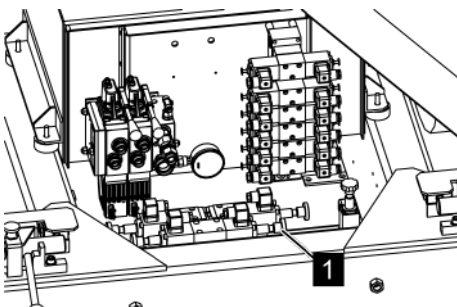

Fig. 136: Shuttle valve
8. ➔ After service operation, unlock the shuttle valve (Fig. 136/1).
- Make sure that the shuttle valve (Fig. 136/1) is completely unlocked for normal operation.